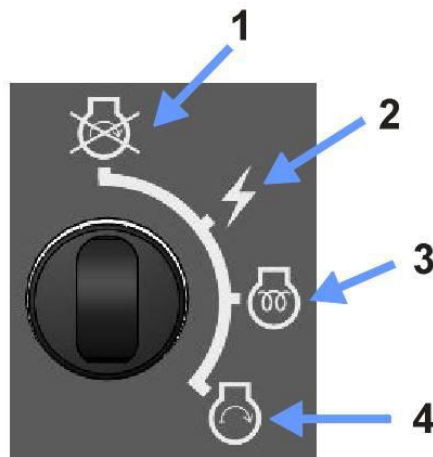

Figure 4.42 - Heat Position
6. Turn the key further clockwise to the Heat position item 3 Figure 4.42.